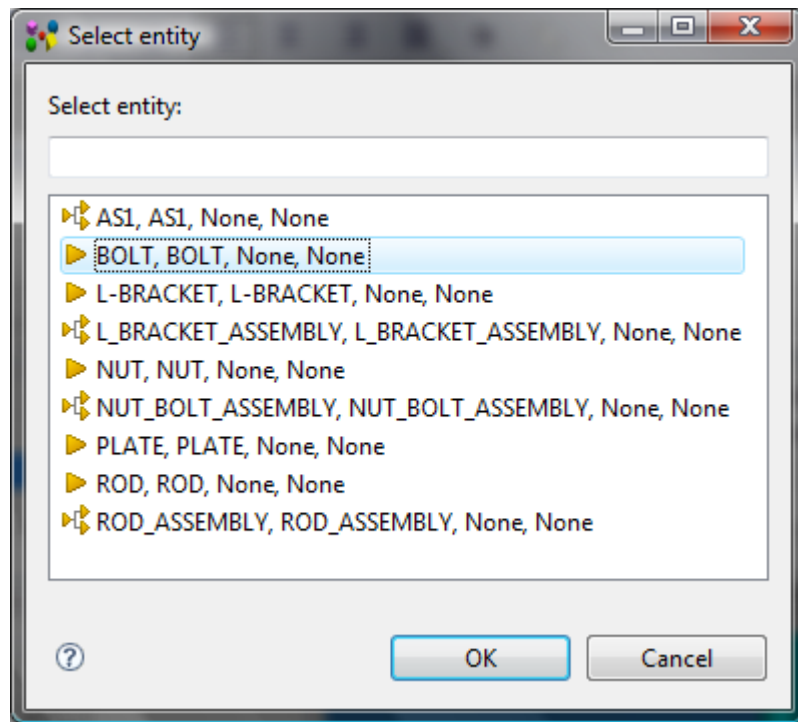

Figure 2. Select entity dialog window
- Press the button next to the text field. The **Select entity** dialog window appears on the screen (see Figure 2):